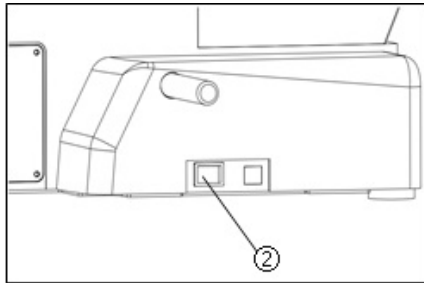

Fig. 15
2. Turn on the main switch ② on the side of microscope to “-”(on).(Fig.15)